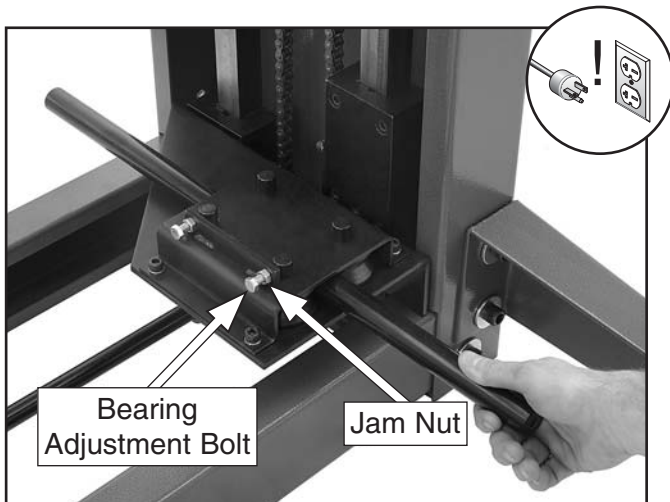

Figure 48. Table bearing adjustment (table removed for clarity).
1. Loosen the jam nuts on the bearing adjustment bolts (**Figure 48**).